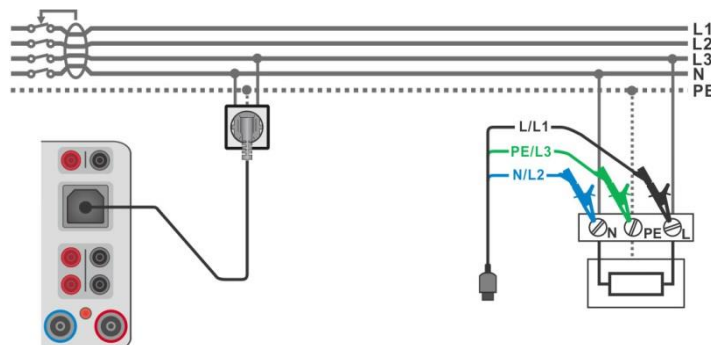

Figure 6.72: Connection of Plug test cable or 3-wire test lead
- Connect 3-wire test lead or Plug test cable to the object under test, see **Figure 6.72**.